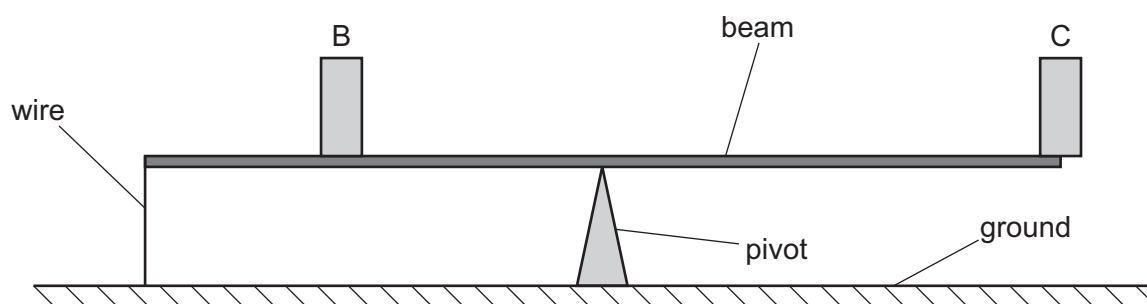

Fig. 2.2
- (ii) Object A is removed and replaced by a wire fixed to the end of the beam and to the ground, as shown in Fig. 2.2.